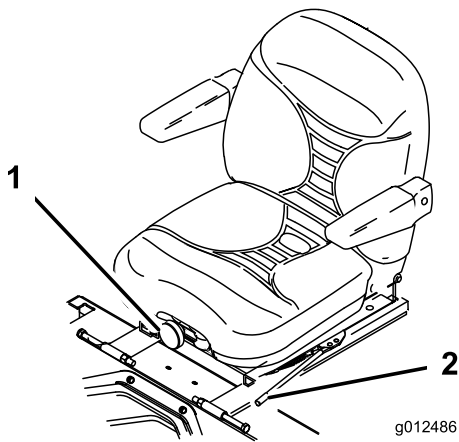

Figure 21
- To adjust, move the lever sideways to unlock seat (Figure 21).
To adjust, turn the knob in front either direction to provide the best comfort (Figure 21).